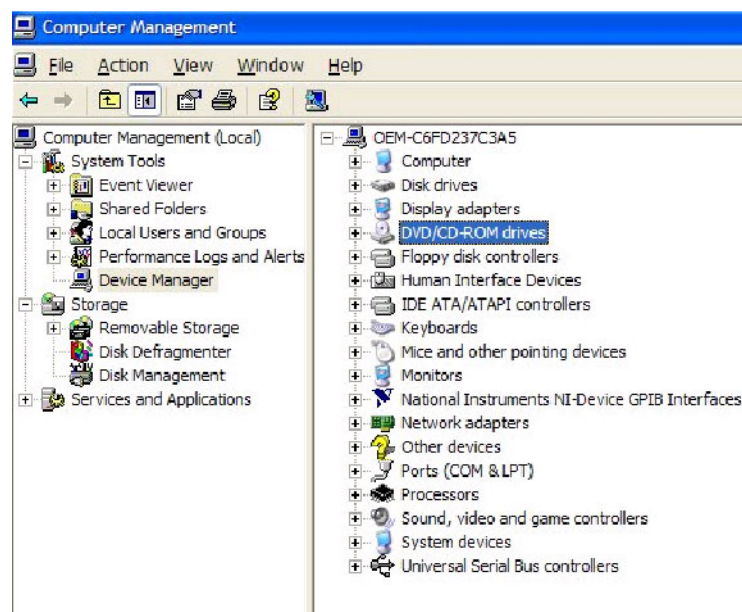

Figure 21: Verifying the presence of the DVD drive in the Device Manager
21. On the Windows desktop, right-click **My Computer** and select **Manage**. In the **Computer Management** window, locate **System Tools** and then select **Device Manager**. Verify that **DVD/CD-ROM drives** appears in the list as shown in Figure 21.